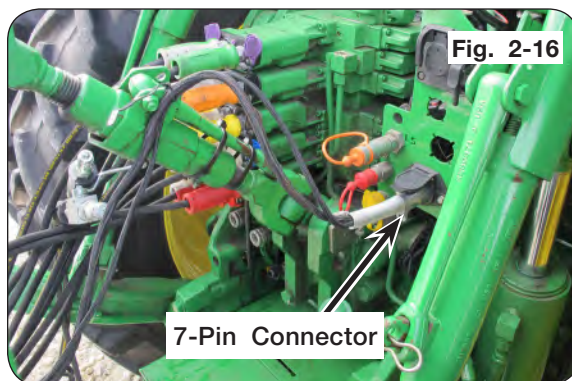

Fig. 2-16
5. Attach the 7-pin connector to tractor. (FIG. 2-16)